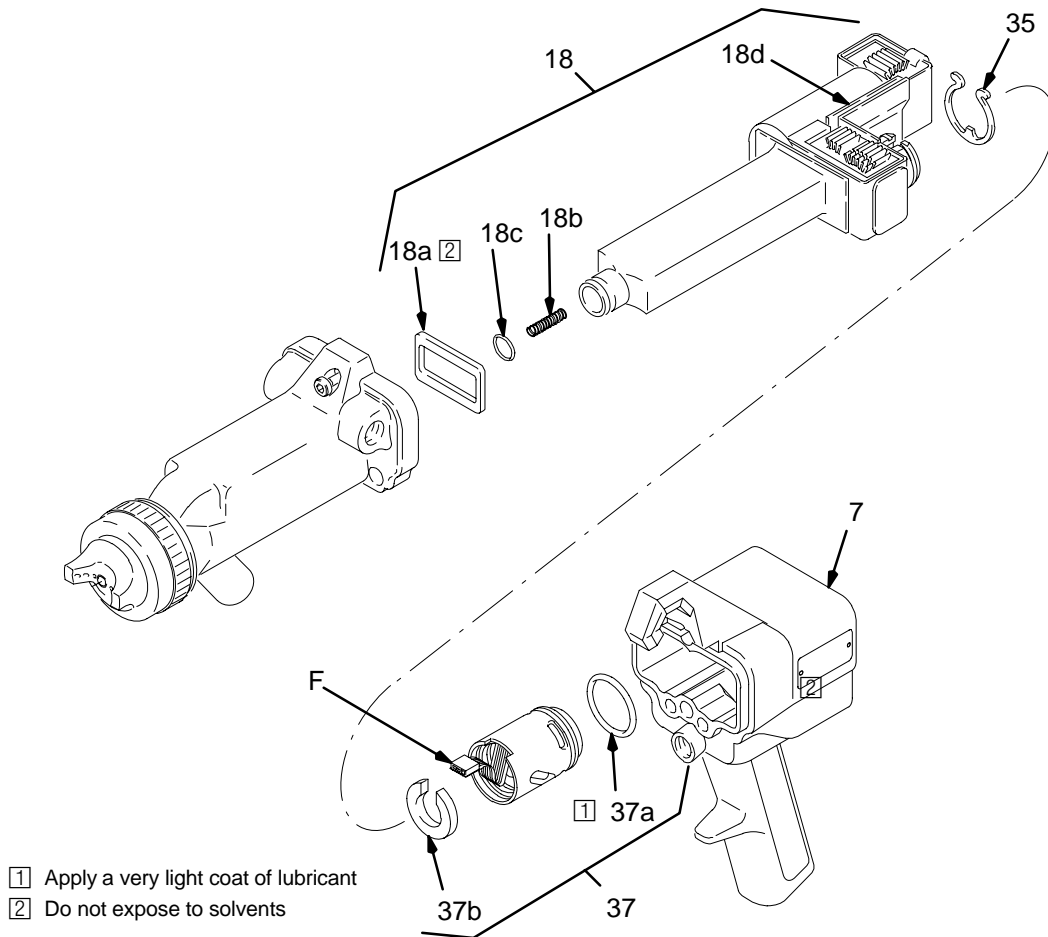

Fig. 18
NOTE: The power cartridge consists of the alternator (37), power supply (18) and retaining ring (35). See Fig. 18.
3. Squeeze the two ends of the retaining ring (35) together and carefully pull the alternator (37) away from the power supply until the 3-wire connector (F) disengages. See Fig. 18, page 27.
4. Use an ohmmeter to test the turbine alternator coil. Measure the resistance between the two outer terminals of the 3-wire connector (F). The resistance should be 3 to 5 ohms. If the reading varies from this value, replace the alternator.